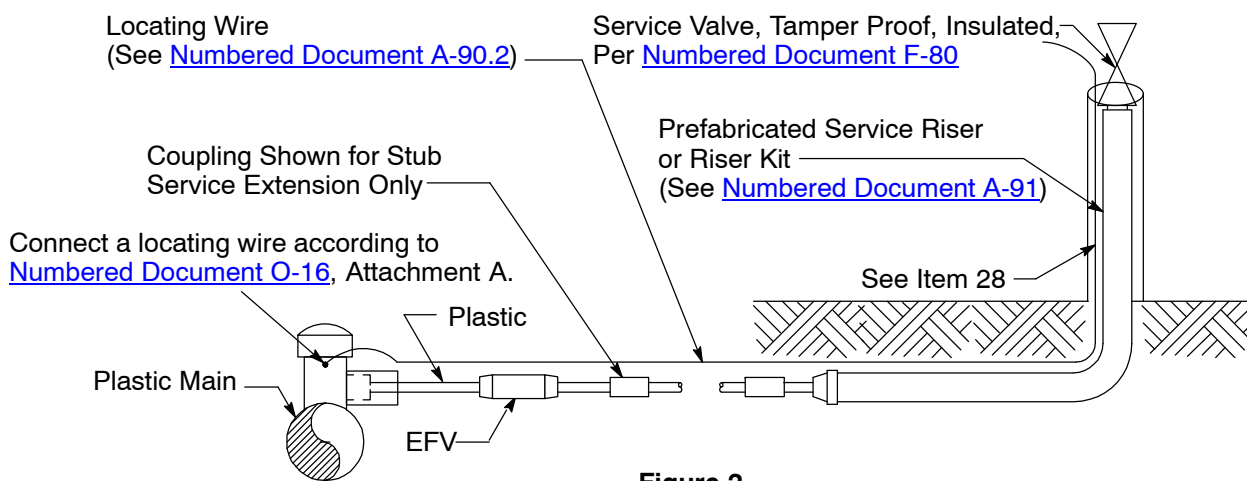

Figure 2
Notes Apply to Figure 2 on Page 4
18. Figure 2 represents a typical lateral connection. See Numbered Documents B-90.1 and B-90.3 for saddle fittings.